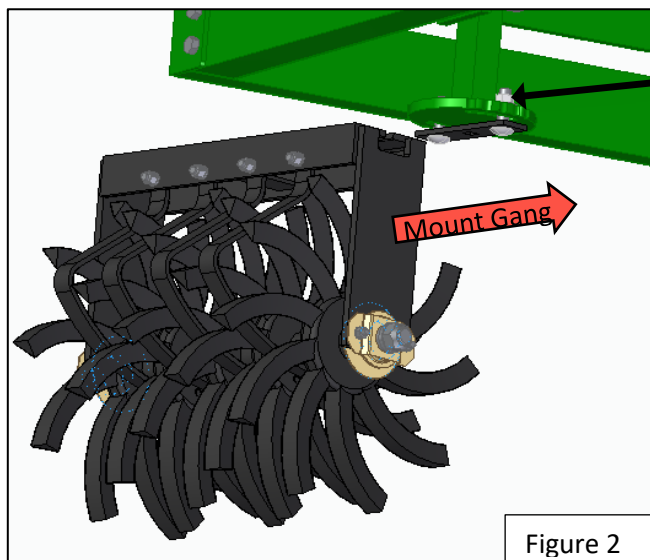

Figure 2
- Slide the appropriately numbered gang onto the mounting plate (Figure 2).